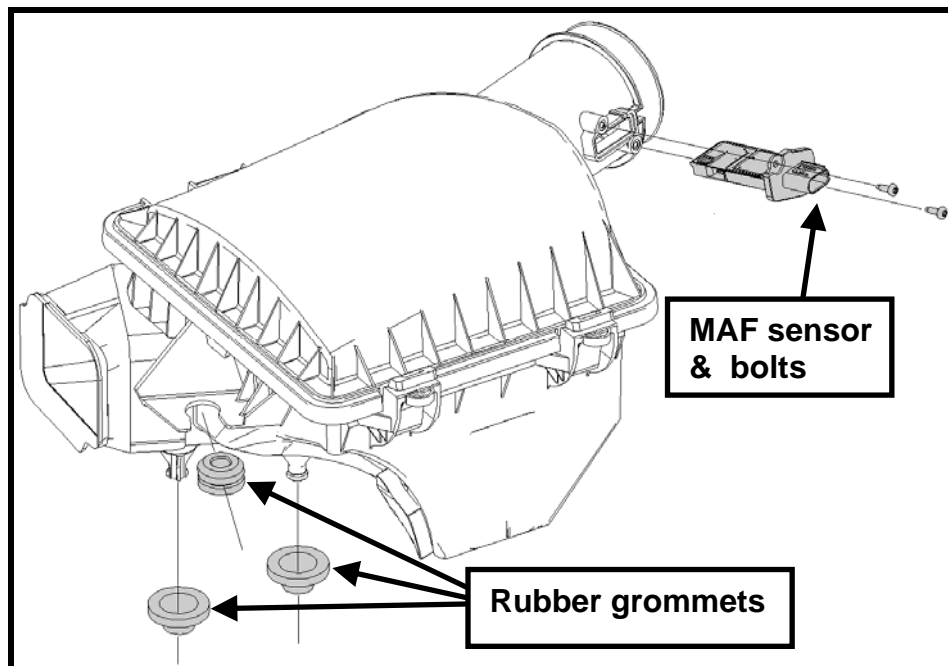

Fig. 6
**STEP 8:** Remove the three grommets, MAF and MAF bolts from the factory airbox (See Fig. 6). These will be reused later.